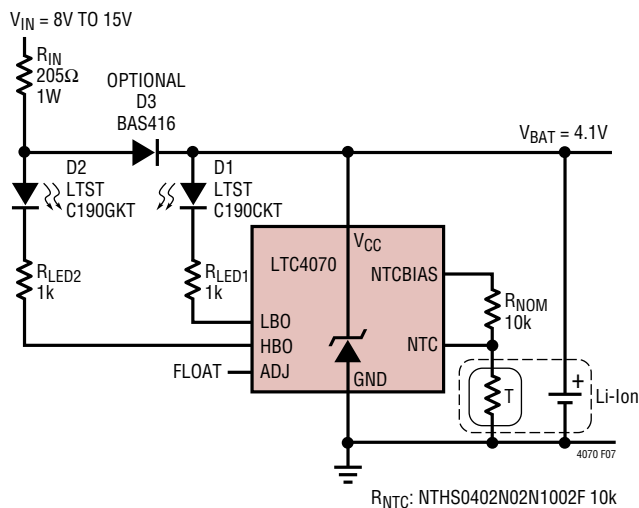

**Figure 6. Photovoltaic Charger with Extremely Low Leakage When Not Charging**
A photovoltaic (PV) application for the LTC4070 is illustrated in Figure 6. In this application, transistor Q1 has been added to further reduce the already low quiescent current of the LTC4070 to achieve extremely low battery discharge when the PV cells are not charging the battery. In long battery life applications, Q1 isolates the battery from the LTC4070 when Q1's base voltage falls. Under normal operation, the PV cells provide current through
The PV application schematic in Figure 6 also illustrates using the LTC4070 with a 10k, 5% curve 2 type NTC thermistor, NTHS0402N02N1002F. Here  $R_{NOM}$  is 10k, and the rising temperature trip points are 40°C, 50°C, 60°C and 70°C.